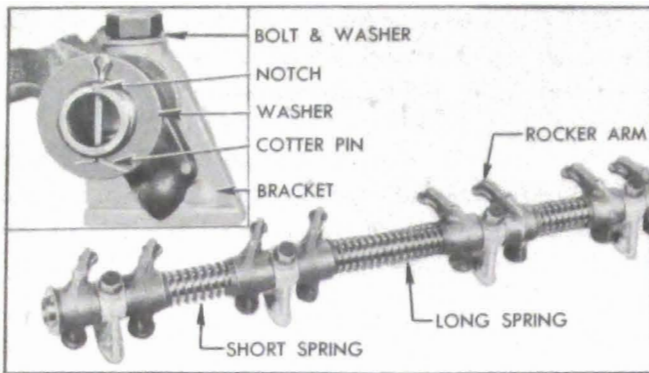

Figure 2-17—Rocker Arm and Shaft Assembly
3. Assemble springs, rocker arms and brackets on shaft as shown in figure 2-17. Note that the long spring is at middle of shaft, the valve ends of all rocker arms slant toward middle of shaft, and a bracket is located between each pair of rocker arms.
(4) Install locking plates with exhaust manifold bolts, tighten bolts only to 10-15 ft. lbs. torque, then bend one tab of plate against a flat on each bolt head.
(5) When rocker arm and shaft assembly is installed, make certain that the notch in one end of shaft is upward in line with bracket bolt heads. See figure 2-17.
(6) After installation is completed and engine has been warmed up to operating temperature, recheck cylinder head bolts for 63-73 ft. lbs. torque.